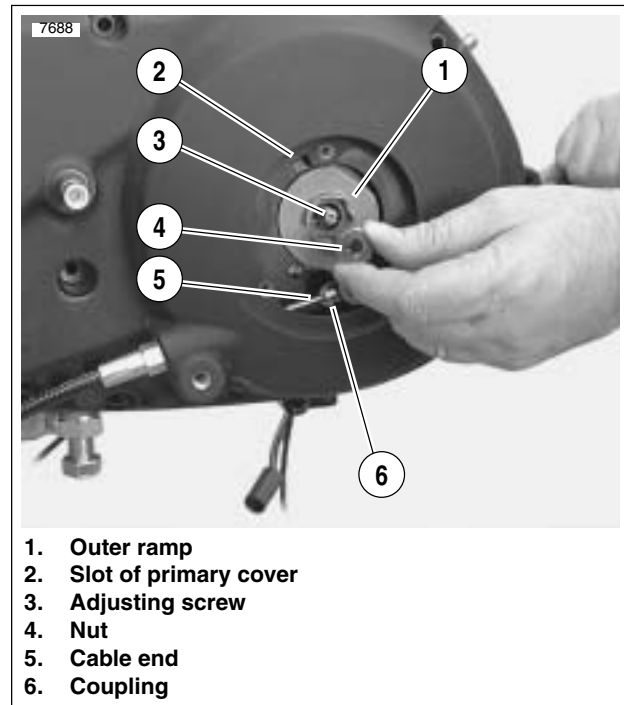

Figure 6-10. Nut & Outer Ramp
2. See Figure 6-10. Install ramp assembly.